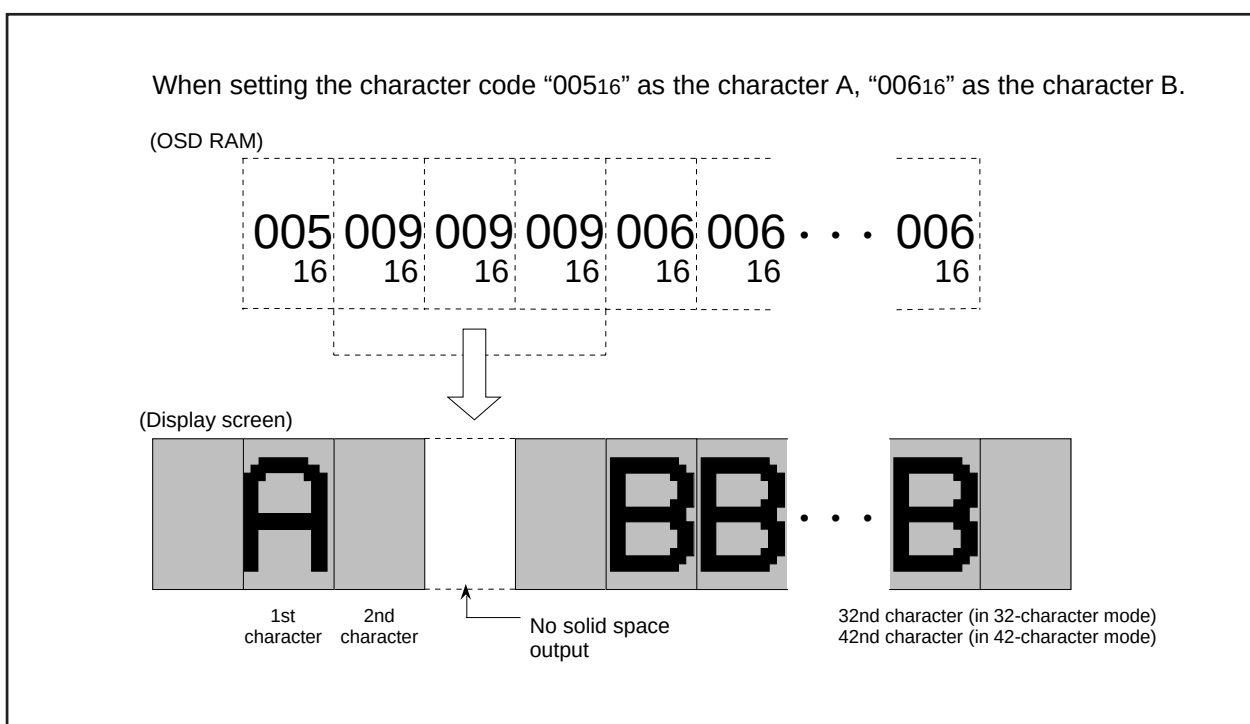

**Figure 2.16.38 Display screen example of automatic solid space**
**3 :** The border in vertical out of character area is not displayed (refer to Figure 2.16.38).